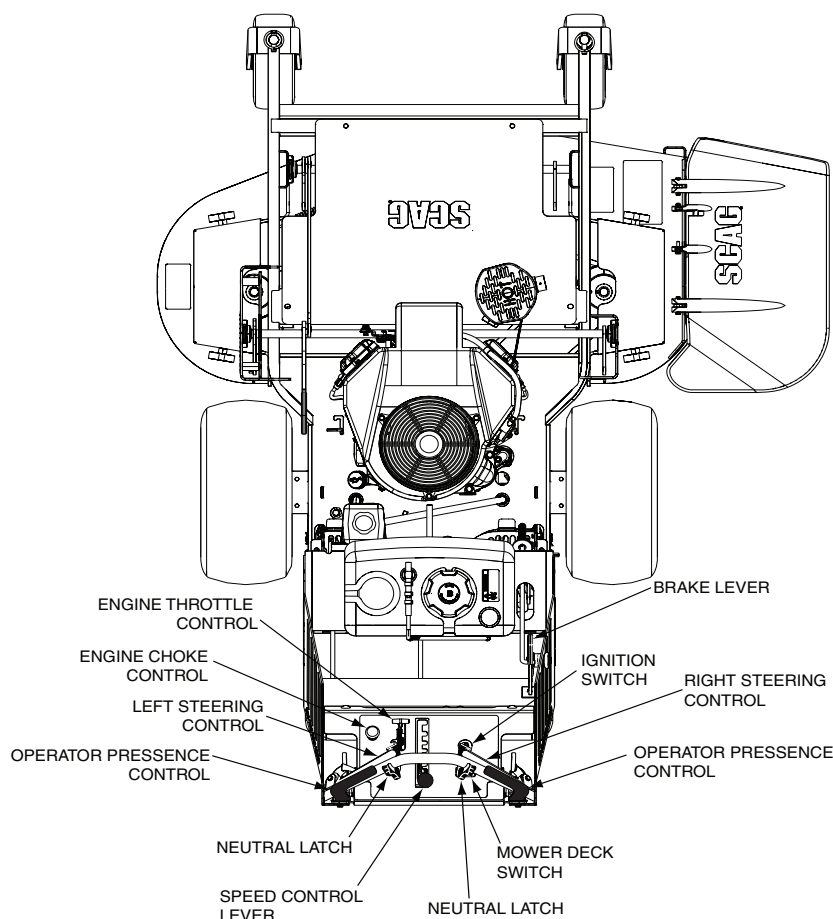

Figure 4-1. Controls and Instruments
1. **Ignition Switch (Figure 4-1).** The ignition switch is used to start the engine. Turn the key to the on position before pulling the recoil starter.
2. **Mower Deck Switch (Figure 4-1).** Used to engage and disengage the mower drive system. Pulling up on the switch will engage the deck drive. Pushing down on the switch will disengage the deck drive.
3. **Engine Choke Control (Figure 4-1).** Used to start a cold engine.
4. **Engine Throttle Control (Figure 4-1).** Used to control the engine speed. Pushing the lever forward increases engine speed. Pulling the lever back decreases engine speed. Full back position is the IDLE position. Full forward is the cutting position.
5. **Left Steering Control (Figure 4-1).** Used to control the mower's left wheel when traveling forward or reverse. Pull upward for neutral and reverse.
6. **Right Steering Control (Figure 4-1).** Used to control the mower's right wheel when traveling forward or reverse. Pull upward for neutral and reverse.
7. **Speed Control Lever (Figure 4-1).** Used to select the forward speed.
8. **Neutral Latch (Figure 4-1).** Used to secure the hydraulic drive system in neutral. Apply neutral latches when parking the machine.
9. **Operator Presence Control (Figure 4-1)**
10. **Parking Brake Lever (Figure 4-1)** Used to engage and disengage the parking brake. Pull the lever back to engage the parking brake. Push the lever forward to disengage the parking brake.